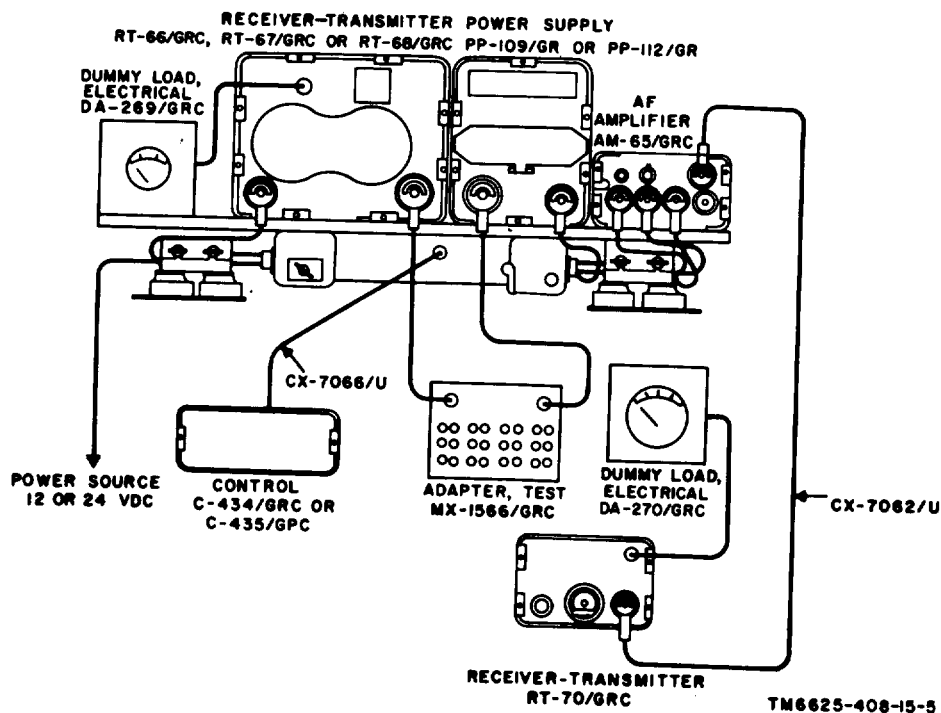

Figure 9. Typical use of low- and high-power dummy antennas, set 1 adapter, cables CX-7062/U and CX-706/U.
CX-7062/U (fig. 9).....	Connects between RT-70/GRC POWER receptacle J3 of AF Amplifier AM-65/GRC and POWER receptacle J203 of Receiver-Transmitter RT-GRC.
CX-7066/U (fig. 9).....	Connects between mounting base connector J1 (fig. 13) and Control C-435/GRC or local Control C-434/GRC.
Low-power dummy load (fig. 9)	Connects to ANT socket J201 of Receiver-Transmitter RT-70/GRC to act as a load and output indicator during troubleshooting, testing, and transmitter alignment.
High-power dummy load (fig. 9)	Connects to ANT socket J307 of Receiver-Transmitter RT-66/GRC, RT-67/GRC, or RT-68/GRC to act as a load and output indicator during testing, troubleshooting, and transmitter alinement.
- (3) Place the components of the radio set to be tested on the mounting base.
- (4) Connect the power and control cables from the mounting base to the component on the mounting base (fig. 9).
- (5) Connect Adapter, Test MX-1566/ GRC, special purpose cables, and dummy antenna as required for the test to be made.
16. Operation of Set 1 Adapter (fig. 9)